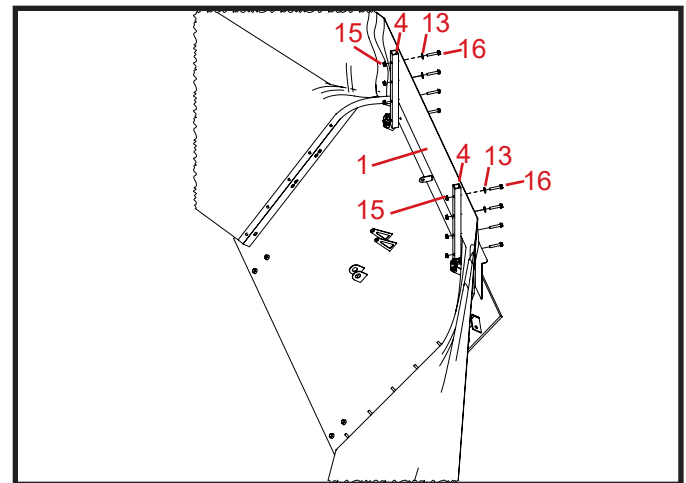

Figure 4
Attach the Tip-Up Corner (1) to the Front Panel Assembly (5) using the Panel Mount Tubes (4), 5/16" x 1 3/4" bolts (16), 5/16" flat washers (13), and 5/16" flange nuts (15). See Figure 4.